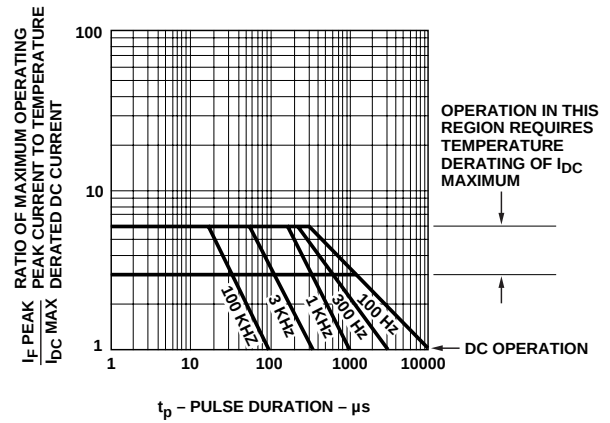

Figure 5. Maximum Tolerable Peak Current vs. Pulse Duration – Yellow.
5. See Figure 5 to establish pulsed conditions.